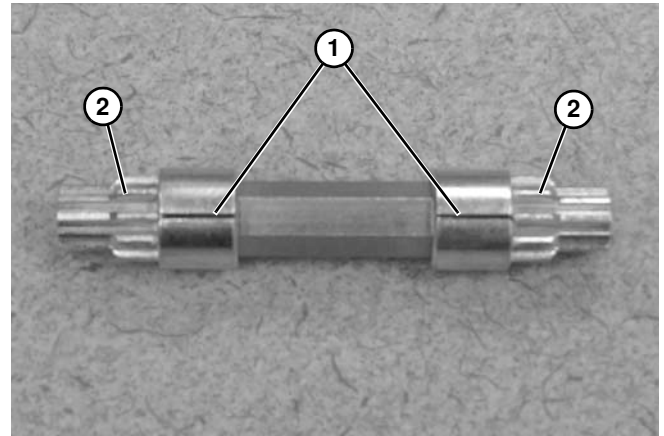

Figure 144
5. To reassemble, make sure that the lines (**Figure 144, item 1**) on the pinion end gears (**Figure 144, item 2**) are aligned.